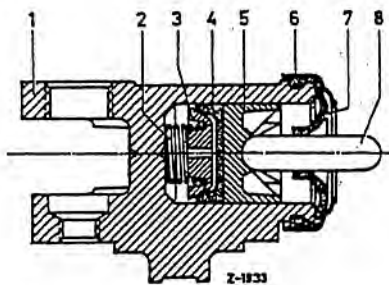

Fig. 42-5/4
2. Remove the actuating pin (8), the metal boot (6), and the rubber boot (7). Then remove the piston (5), the cup (4), the cup expander (3), and the stop spring (2) from the brake wheel cylinder housing (Fig. 42-5/4).